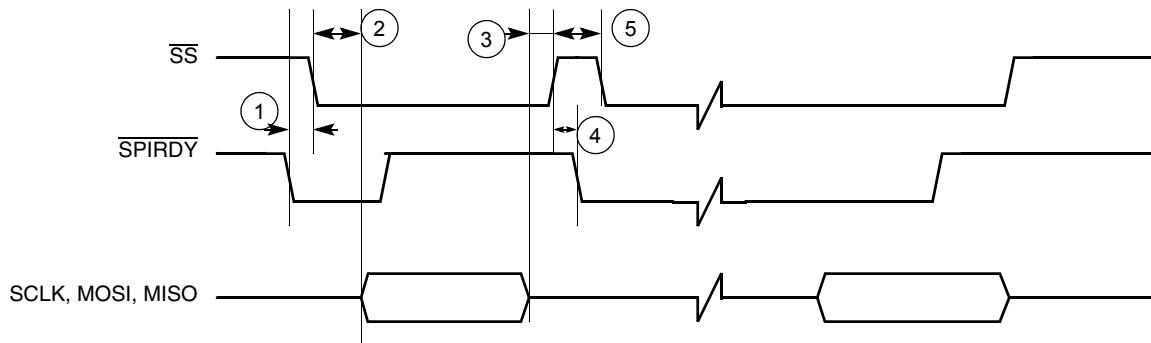
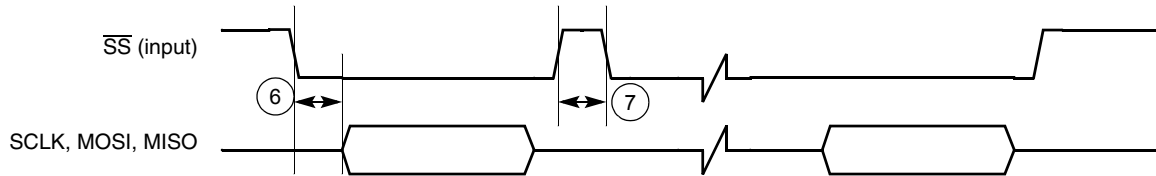

Figure 34. Master SPI Timing Diagram Using $\overline{SPI_RDY}$ Edge Trigger
Figure 38. Slave SPI Timing Diagram FIFO Advanced by \overline{SS} Rising Edge
To use the internal transmit (TX) and receive (RX) data FIFOs when the SPI 1 module is configured as a master, two control signals are used for data transfer rate control: the \overline{SS} signal (output) and the $\overline{SPI_RDY}$ signal (input). The SPI1 Sample Period Control Register (PERIODREG1) and the SPI2 Sample Period Control Register (PERIODREG2) can also be programmed to a fixed data transfer rate for either SPI 1 or SPI 2. When the SPI 1 module is configured as a slave, the user can configure the SPI1 Control Register (CONTROLREG1) to match the external SPI master's timing. In this configuration, \overline{SS} becomes an input signal, and is used to latch data into or load data out to the internal data shift registers, as well as to increment the data FIFO. Figure 34 through Figure 38 show the timing relationship of the master SPI using different triggering mechanisms.
Table 17. Timing Parameter Table for Figure 34 through Figure 38